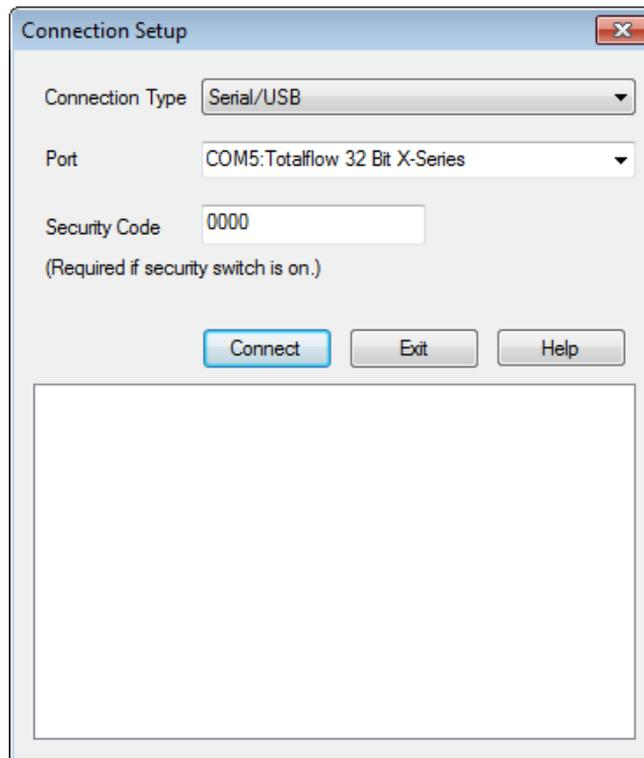

Figure 66: 32 Bit Loader connection configuration
4. Select the Connection Type, the local communication Port, and enter the Security Code if required (Figure 66).